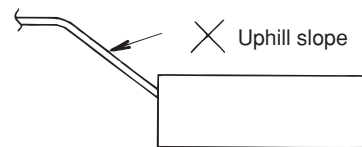

Fig. 3-43
- Do not install the pipe with an upward gradient from the connection port. This will cause the drain water to flow backward and leak when the unit is not operating. (Fig. 3-43)